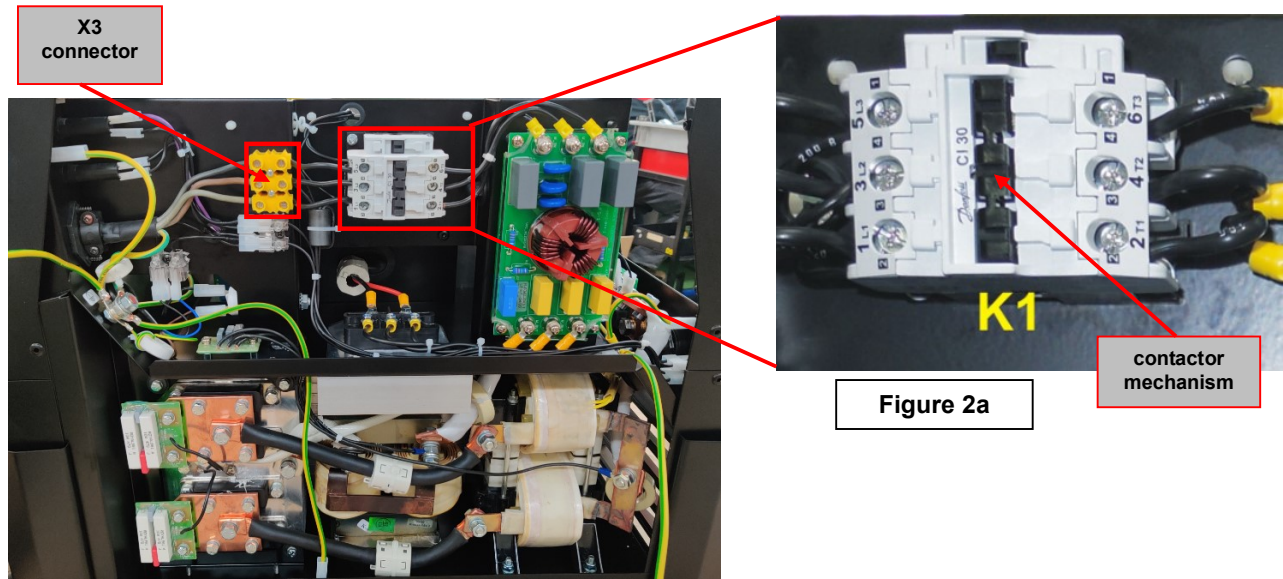

Figure 2
9. If 400 Vac are not present between n° 1 and n° 3 of terminal strip, check the presence of the 3 phases on connector X3, check the main switch S1 and the fuse F2 on the machine rear panel. See **Figure 2** for connector X3 location.